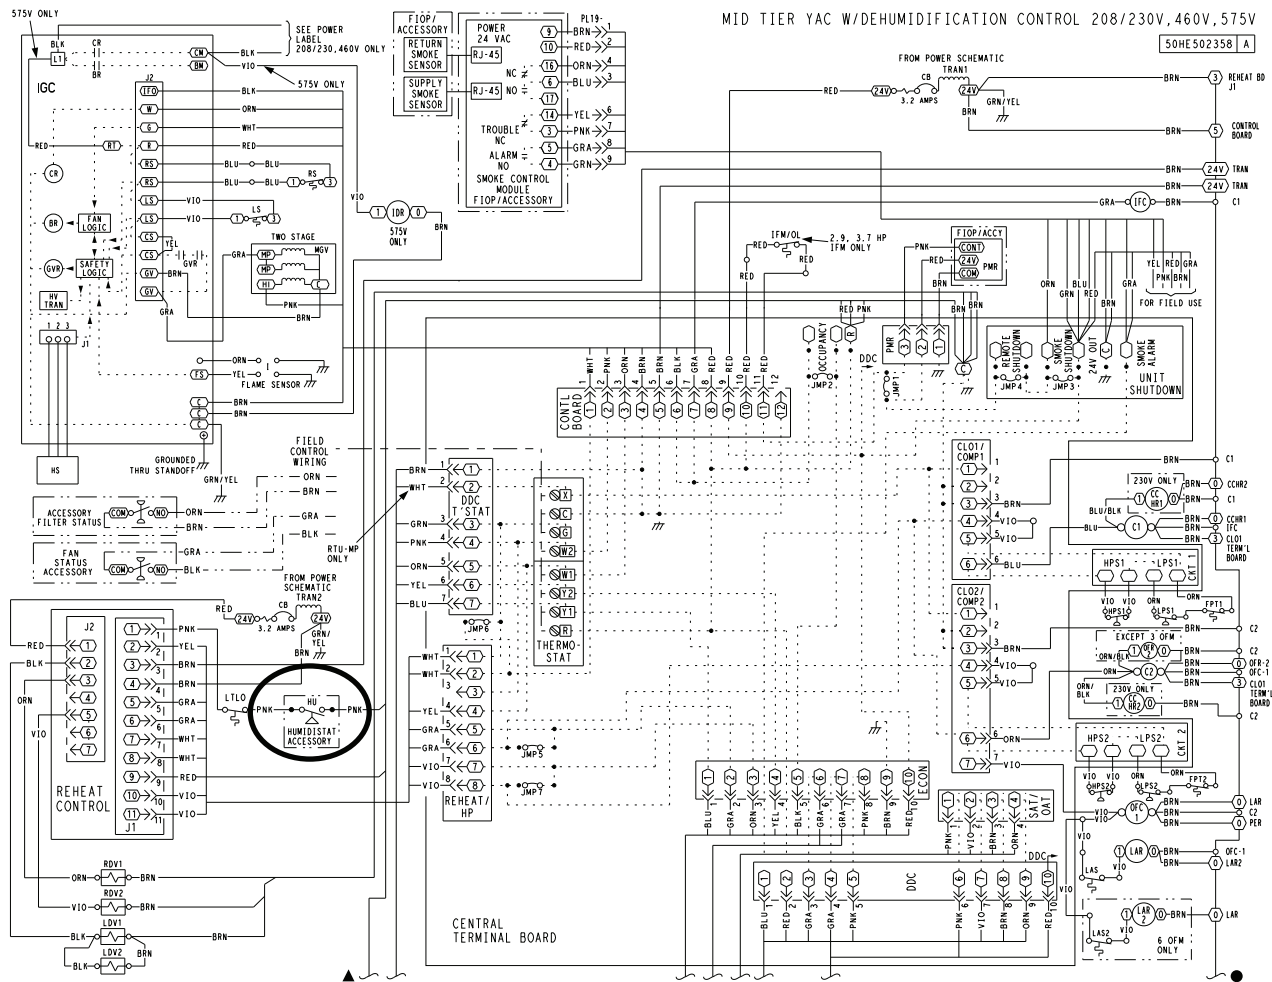

Fig. 33 — Typical Hot Gas Re-Heat Dehumidification System Humidistat Wiring
3. Use wire nuts to connect humidistat cable to two PINK leads in the low-voltage wiring as shown in Fig. 33.